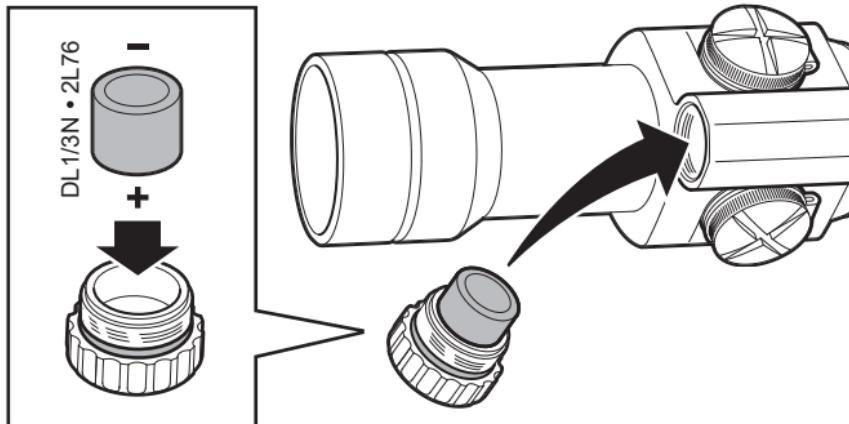

Fig. 2 ➔ 2.1
- a Remove battery cap (2) by turning it counterclockwise.
- b Insert battery (3) with positive end (+) toward battery cap (2). See Fig 2.